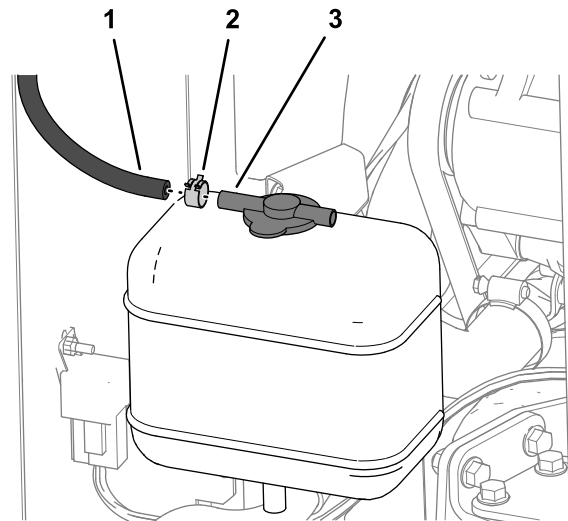

Figure 54
2. Assemble the hose—8 x 254 mm (5/16 x 10 inches) onto the longer hose barb of the cap for the coolant reservoir tank with a small hose clamp (Figure 54).
1. Align the console cover over the control console and lower the cover (Figure 54).